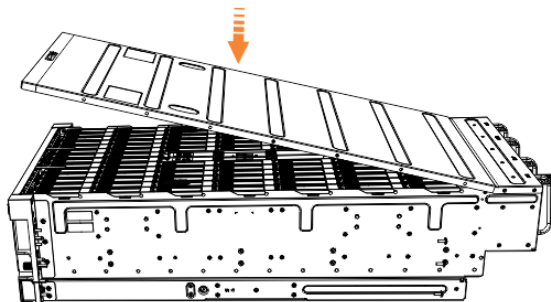

Figure 124. Aligning the top cover
6. Carefully lower the cover and ensure that it is aligned correctly with the back of the enclosure, as shown in Figure 124 on page 177.